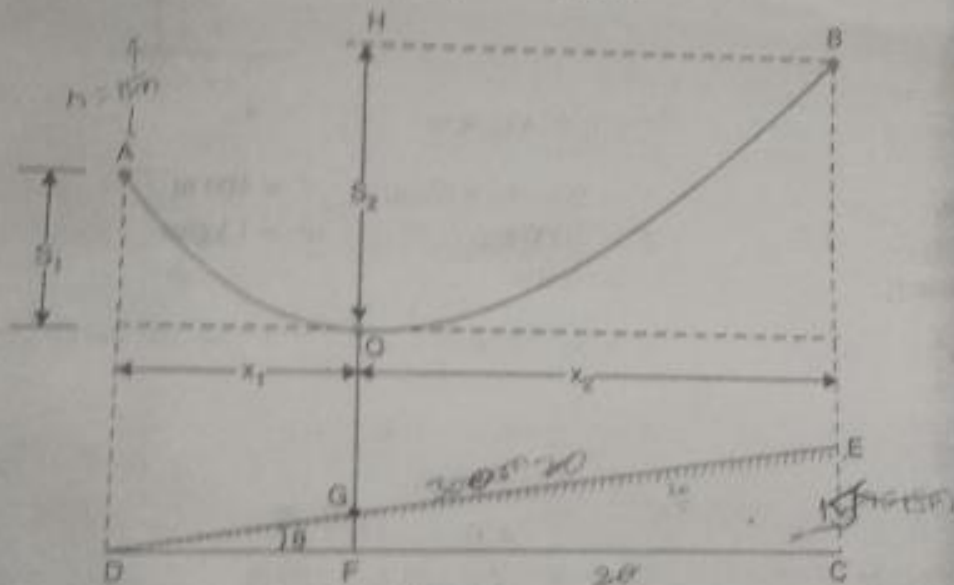

Fig. 8.31
**Solution.** The conductors are supported between towers  $AD$  and  $BE$  over a hillside having a gradient of  $1 : 20$  as shown in Fig. 8.31. The lowest point on the conductor is  $O$  and  $\sin \theta = 1/20$ .